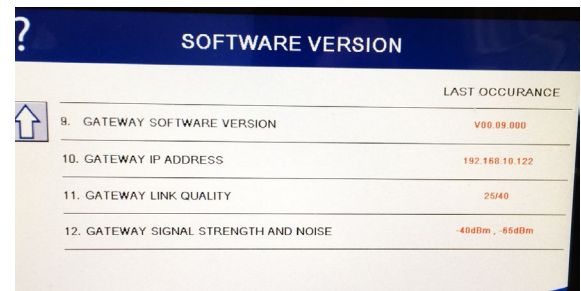

Figure 27
1. If the controller displays the KCCM software version, then the CAN bus cable is connected and operational. If the software version is all zeros (0), the Gateway is not connected or terminated. Otherwise, check the CAN bus wiring and ensure that wiring is correct and there is CAN bus termination.
2. The first number on gateway link quality (refer to Figure 27) on in #11 (Gateway Link Quality) which is shown at 0/40) is the difference between received signal strength and background noise level. This number is called SNR (Signal-to-noise ratio).
3. Gateway signal strength and noise (refer to Figure 27 #12). Signal strength from -20 dbm to -65 dbm is good connection. Noise level should be below -70 dbm to -95dbm